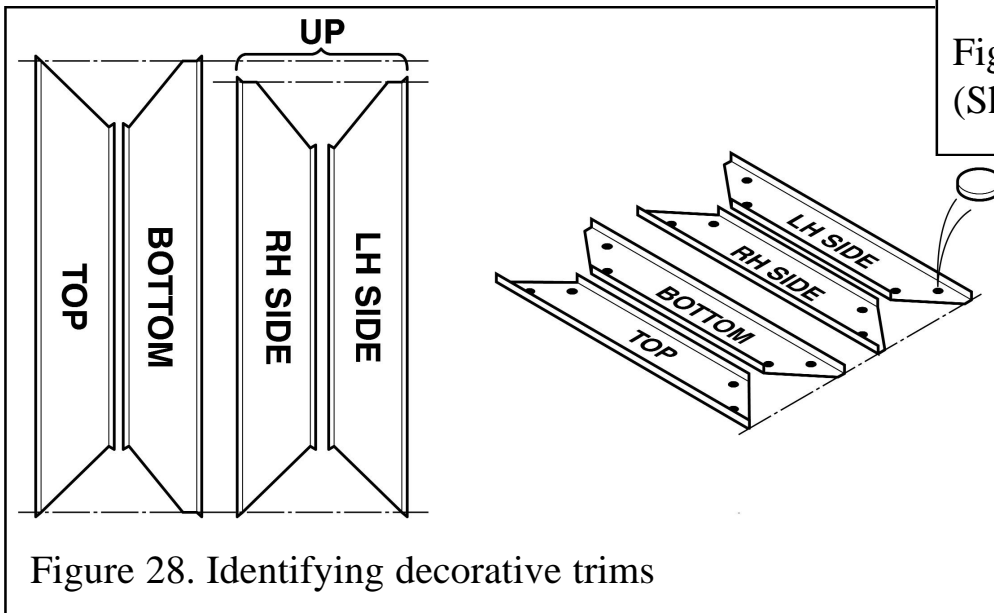

Figure 28. Identifying decorative trims
3. The fascia decorative trim is made up of four sections. A bottom and top section of equal length and two shorter sections of equal length that are the side sections. These can be identified as in figure 28.
Position the magnets as in figure 28.